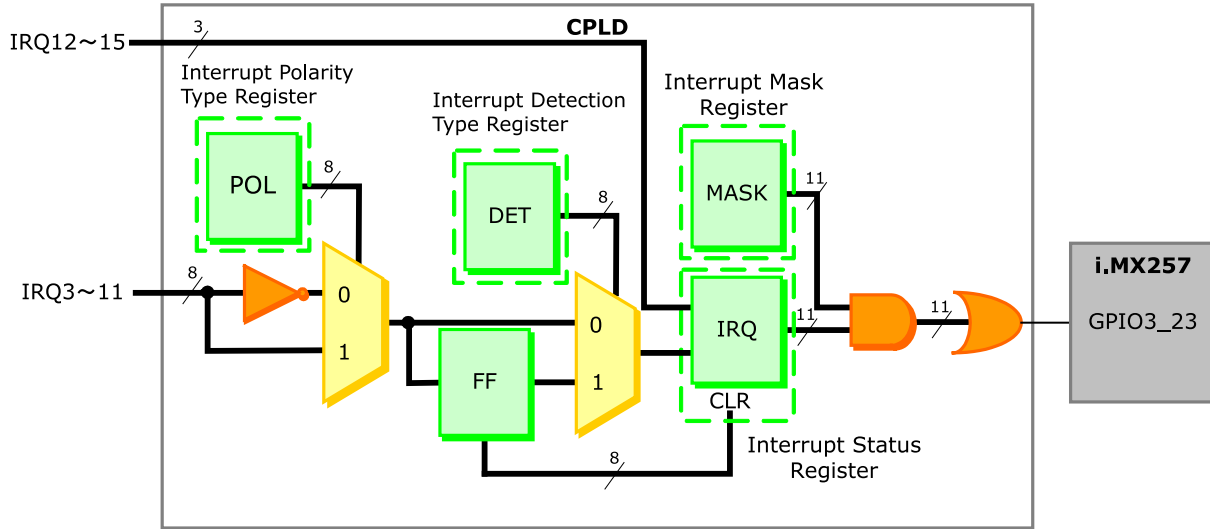

Figure 6.7. Interrupt Controller Mechanism
The mechanism of the interrupt controller is shown in Figure 6.7, “Interrupt Controller Mechanism”. The interrupt detection types of IRQ3 to IRQ7 and IRQ9 to IRQ11 can be selected with the Ext Interrupt Polarity Type Register (POL) and the Ext Interrupt Detection Type Register (DET). When the interrupt detection type is set to LEVEL, the value is used as is, and when it is set to EDGE, the value stored by the flip-flop (FF) is used. The FF value is saved until the CLR signal is activated. The interrupt status can be obtained from the Ext Interrupt Status Register (IRQ). The interrupt signals are masked by the Interrupt Mask Register (MASK) and then the OR of all interrupt signals is used to signal interrupts to the CPU.